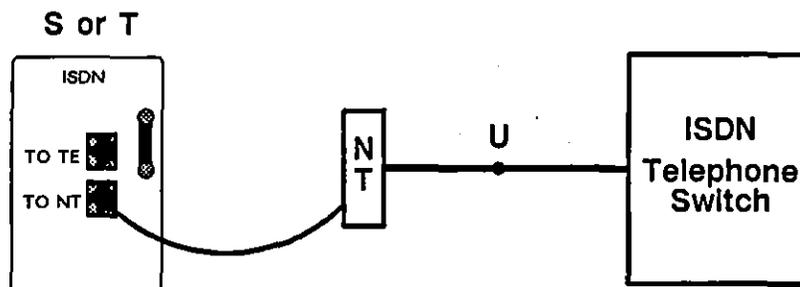

Figure 51-6 When emulating DTE in normal transmit mode, break the S or T interface toward the ISDN switch.
3. *Emulate DTE in normal transmit mode.* Figure 51-6 shows the ISDN TIM test configuration when emulating DTE in normal transmit mode. Connect the TO NT interface to the network side of the line.